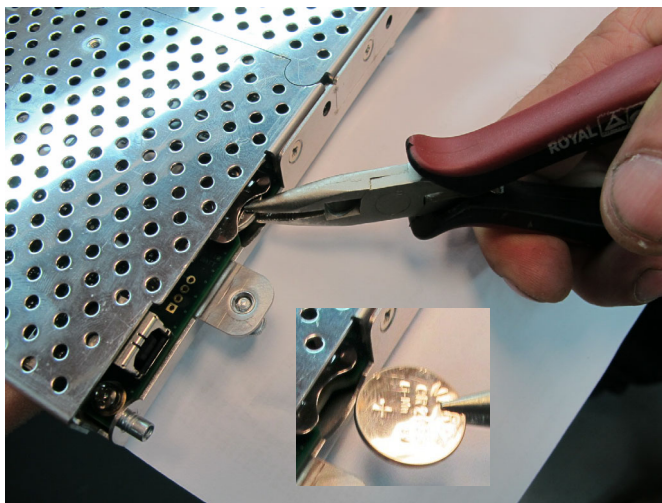

Figure 8-153 Removing the BIOS Battery from the BEP
- 3.) Using a pliers, carefully remove the battery from the BEP as shown in Figure 8-153 (observe that the positive pole is facing *upwards*).